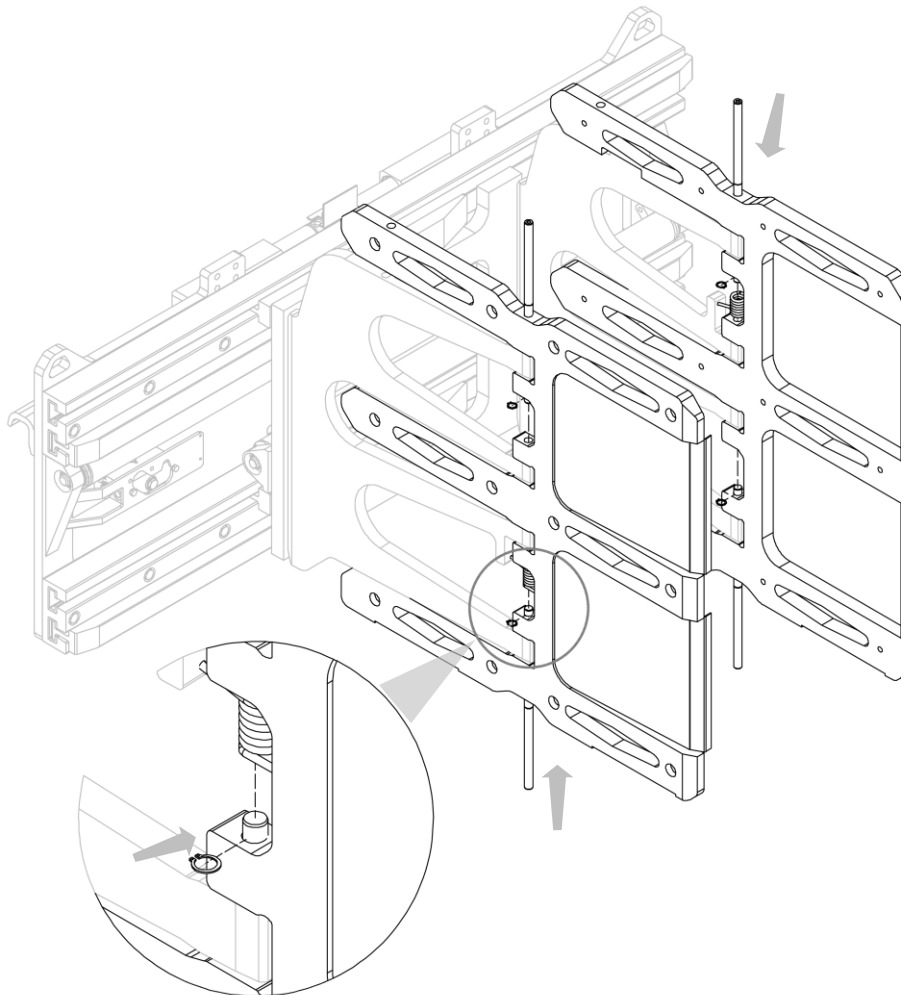

Figure 26
5. Use *Figure 26* and *Figure 27* as guides.